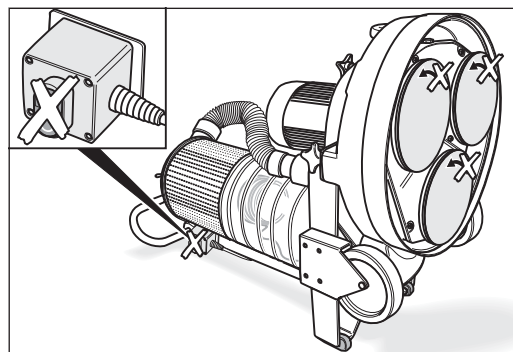

Fig. 15 The machine must not be switched on in a tilted position!
- **The machine must not be switched on in a tilted position (fig. 15)!**